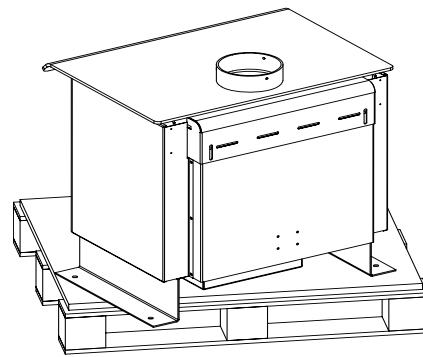

Figure 2
- 3) Slide the stove so that a rear corner of the stove is extended past the edge of the pallet just enough to install rear leg. *Figure 2*